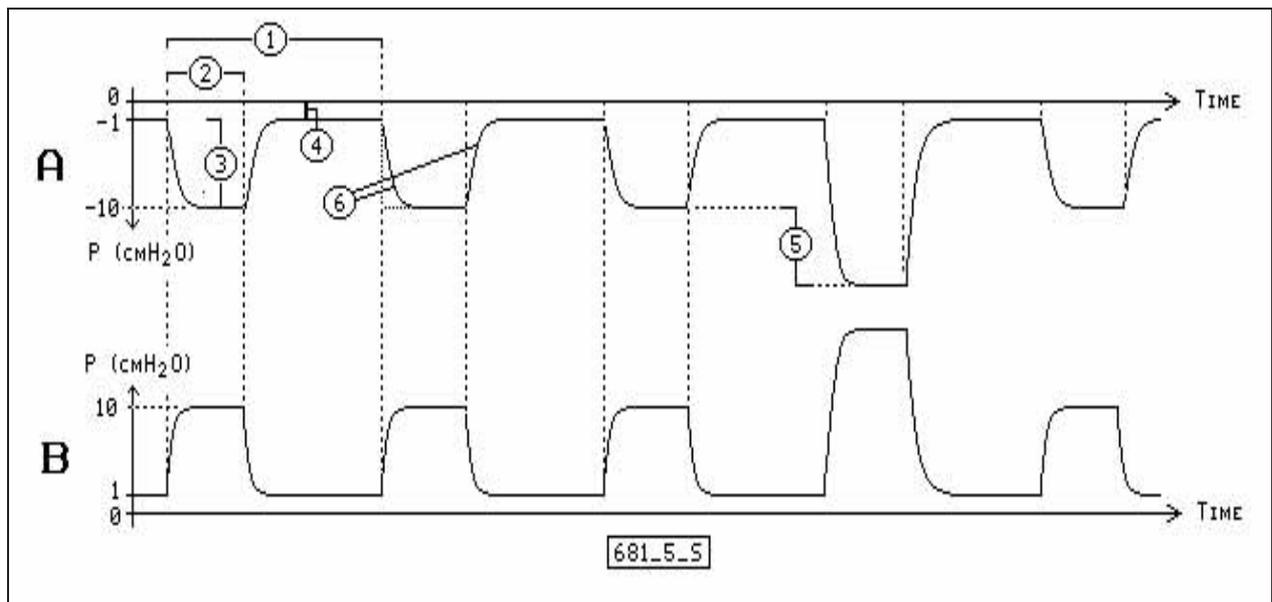

Fig. 6: Ventilation curves.
The individual curves of the pressure signals are shown in Fig. 6. Curve (A) represents the negative pressure generated with the venturi nozzle. The maximum inspiration pressure is set at 10 cm H₂O and the PEEP at 1 cm H₂O. The segments marked (1) to (5) have the following significance:
- (1) Duration of a respiration cycle. The duration is the reciprocal of the RATE setting. The unit of RATE is 1/minute or respiration cycles per minute.
- (2) Inspiration duration as a proportion of the total ventilation cycle duration in % (INSP./CYCLE in %).
- (3) Negative pressure during the inspiration phase.
- (4) Negative pressure during the expiration phase. This also sets the PEEP (Positive End Expiratory Pressure).
- (5) Magnitude of the additional negative pressure which is added to the normal inspiratory pressure during a so-called "deep inspiration". Deep inspirations can be produced by pressing a button.
- (6) Distortion of the pressure curve due to the dead volume of the artificial thorax. Pressure changes in the artificial thorax are produced by air being sucked out or pushed in. This process involves a certain latency period.
Fig. 6 also shows at (B) the pressure curve with positive-pressure ventilation using the restrictor nozzle. Inspiration pressure and PEEP were set at 1 and 10 cm H₂O resp. as at (A).
Both nozzles are in use when operating with the isolated lung. Fig. 6 is a diagram showing the arrangement. The output of the VCM Module (1) is connected to the changeover cock (2); this permits rapid changeover between the two nozzles. While the lung is being dissected from the donor animal (4) the latter is ventilated at a positive pressure through the cannulated trachea connected to the restrictor nozzle. For this operation the inner cover (removable) of the artificial thorax is mounted at the top of the operating table (3). After preparation is completed and the lung is placed into the apparatus, the cock (2)